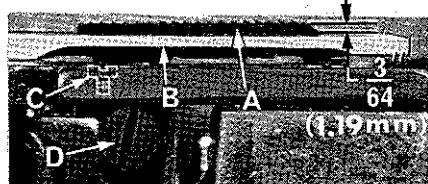

FIGURE 6
Set the feed dog (A, Fig. 6) in the throat plate (B) so there is equal clearance on all sides. See that the tips of the teeth extend the depth of a tooth or approximately $\frac{3}{64}$ inch (1.19 mm) above the throat plate and are parallel with the throat plate at high point of travel. Adjust the supporting screw (C), under the feed dog, to maintain this setting. Screw (D) is used to hold feed dog in position.